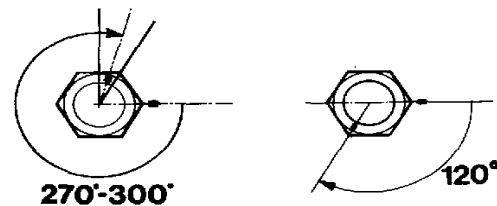

Fig. 108. Angle-tightening
120-series: Screw the adaptor to the oil pump. Screw the coupling into the adaptor by hand as far as it will go. Tighten the coupling 270–300°, as shown in fig. 108.
5. Tighten the coupling to the block 120° as shown in fig. 108. Tighten the clamp.